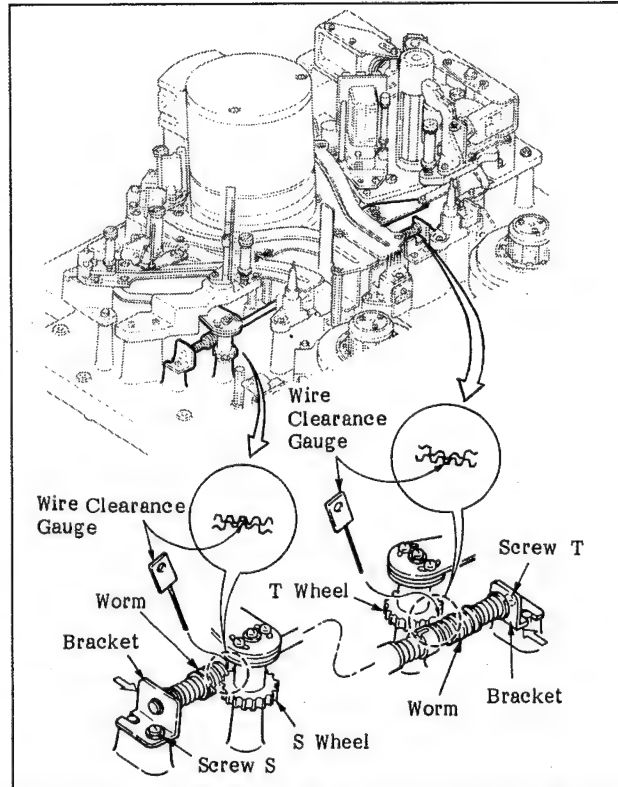

Fig. 6-57. Adjustment of the Clearance between the Link Wheel and the Worm Gear
- b. Insert the 0.3 mm wire clearance gauge between the worm gear and the S/T worm wheel. Tighten screws S/T firmly while pushing the brackets in the direction shown by the arrows in Figure 6-57.